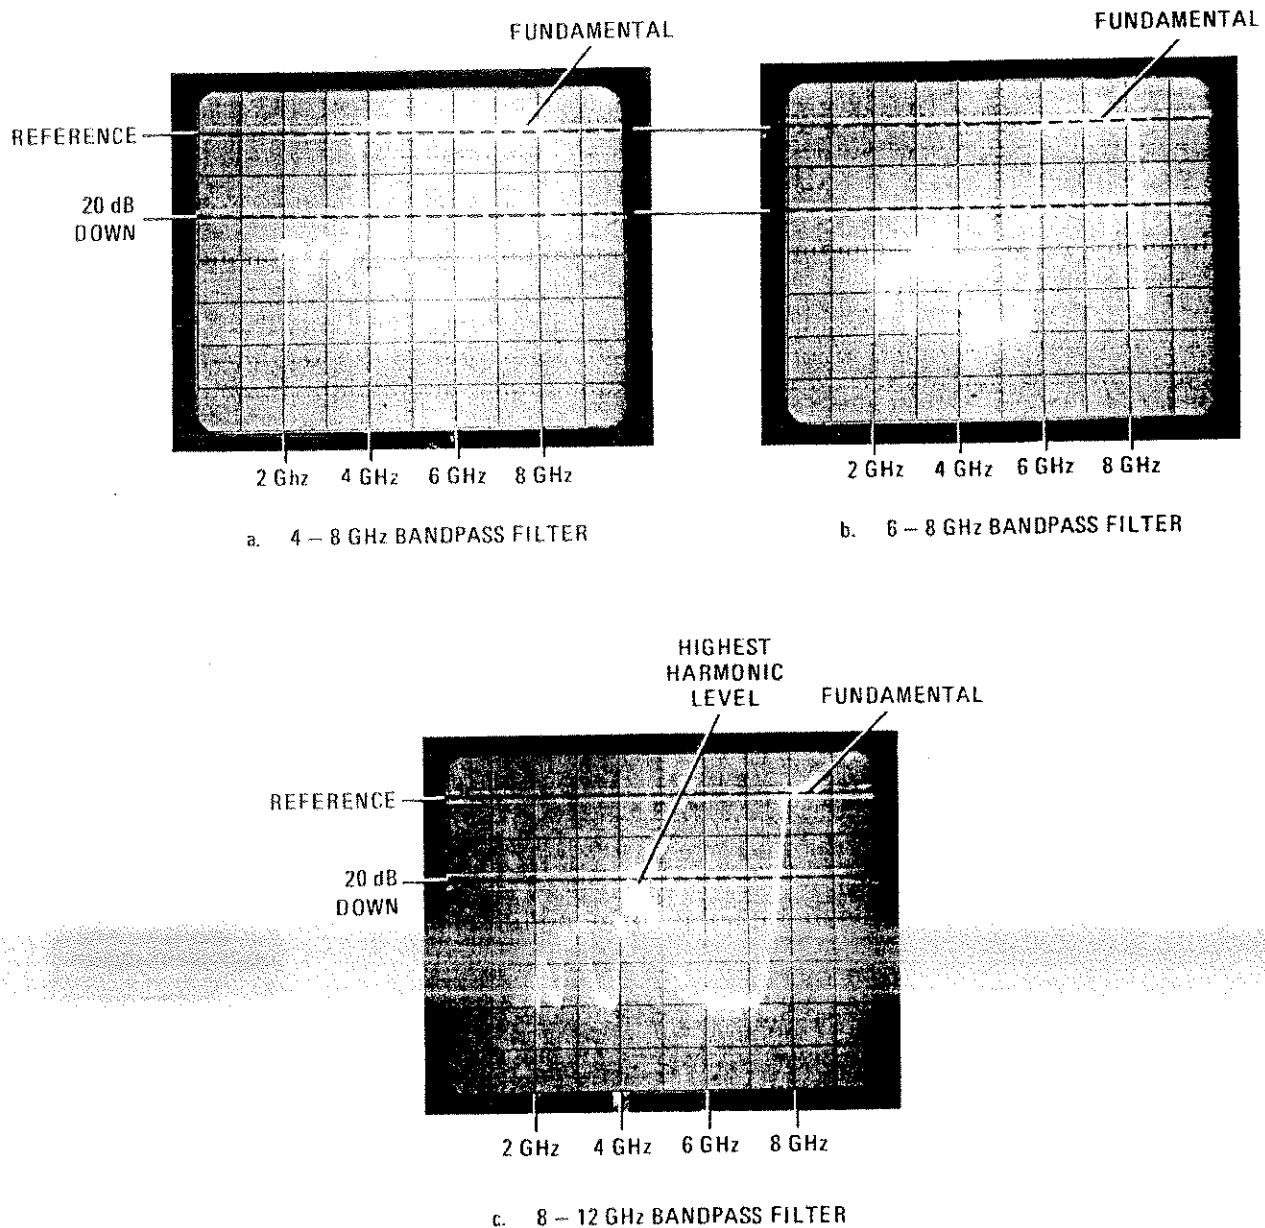

Figure 5-5. 86240A/C, 86235A Harmonics
- d. Set the 8755B VERNIER control to place top of trace one division below top graticule line. (See Figure 5-5.)
- f. Adjust A6R10, R11, R12, R17 for minimum harmonics. (See Figures 5-5 and 5-6.)
Because the FREQ REF is used to sweep the 8755B, the horizontal axis will be approximately 1 GHz/div (FREQ REF out = 1V/GHz). The 86235A and the 86240C display will therefore only be a portion of the display shown in Figure 5-5.